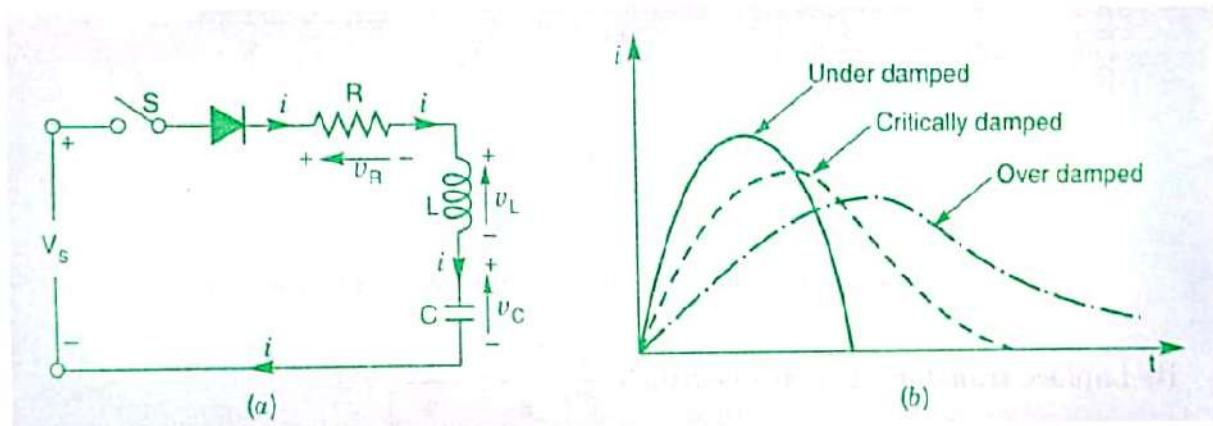

Fig. 3.10. Diode circuit with  $RLC$  load (a) circuit diagram and (b) waveforms.
A diode in series with  $RLC$  circuit is shown in Fig. 3.10 (a). KVL for this circuit, when switch  $S$  is closed at  $t = 0$ , is given by
Waveforms of current for the three different levels of damping are sketched in Fig. 3.10 (b).
**Example 3.6.** For the circuit of Fig. 3.10 (a), the data is as under :